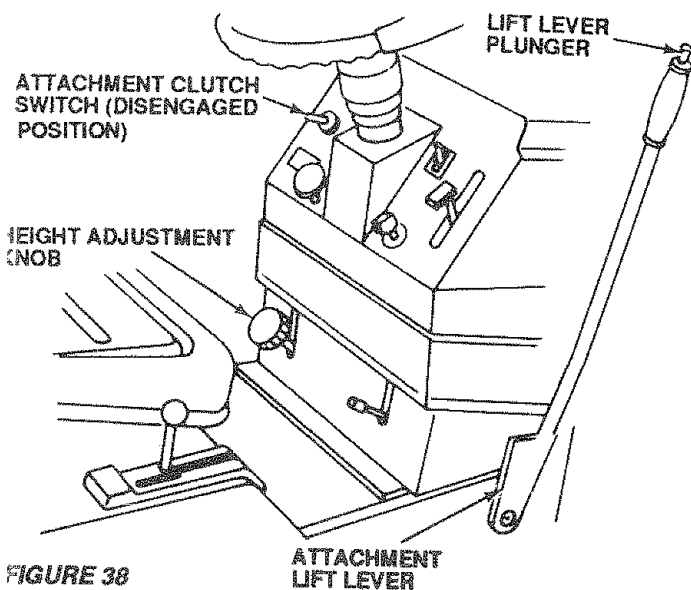

FIGURE 38
- a. Place attachment clutch switch in "Disengaged" position (Fig. 38).
- b. Turn height adjustment knob to its lowest position. Move attachment lift lever (Fig. 38) forward to lower mower to its lowest position.